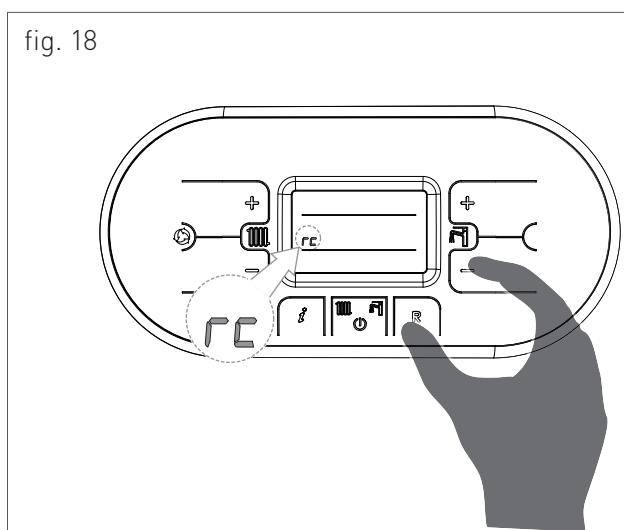

fig. 18
- › Activate the recirculation mode by simultaneously pressing the **R** and **–** buttons of the control panel (figure 18). The activation of the recirculation mode is displayed on the control panel as indicated by the 'rc' symbol.